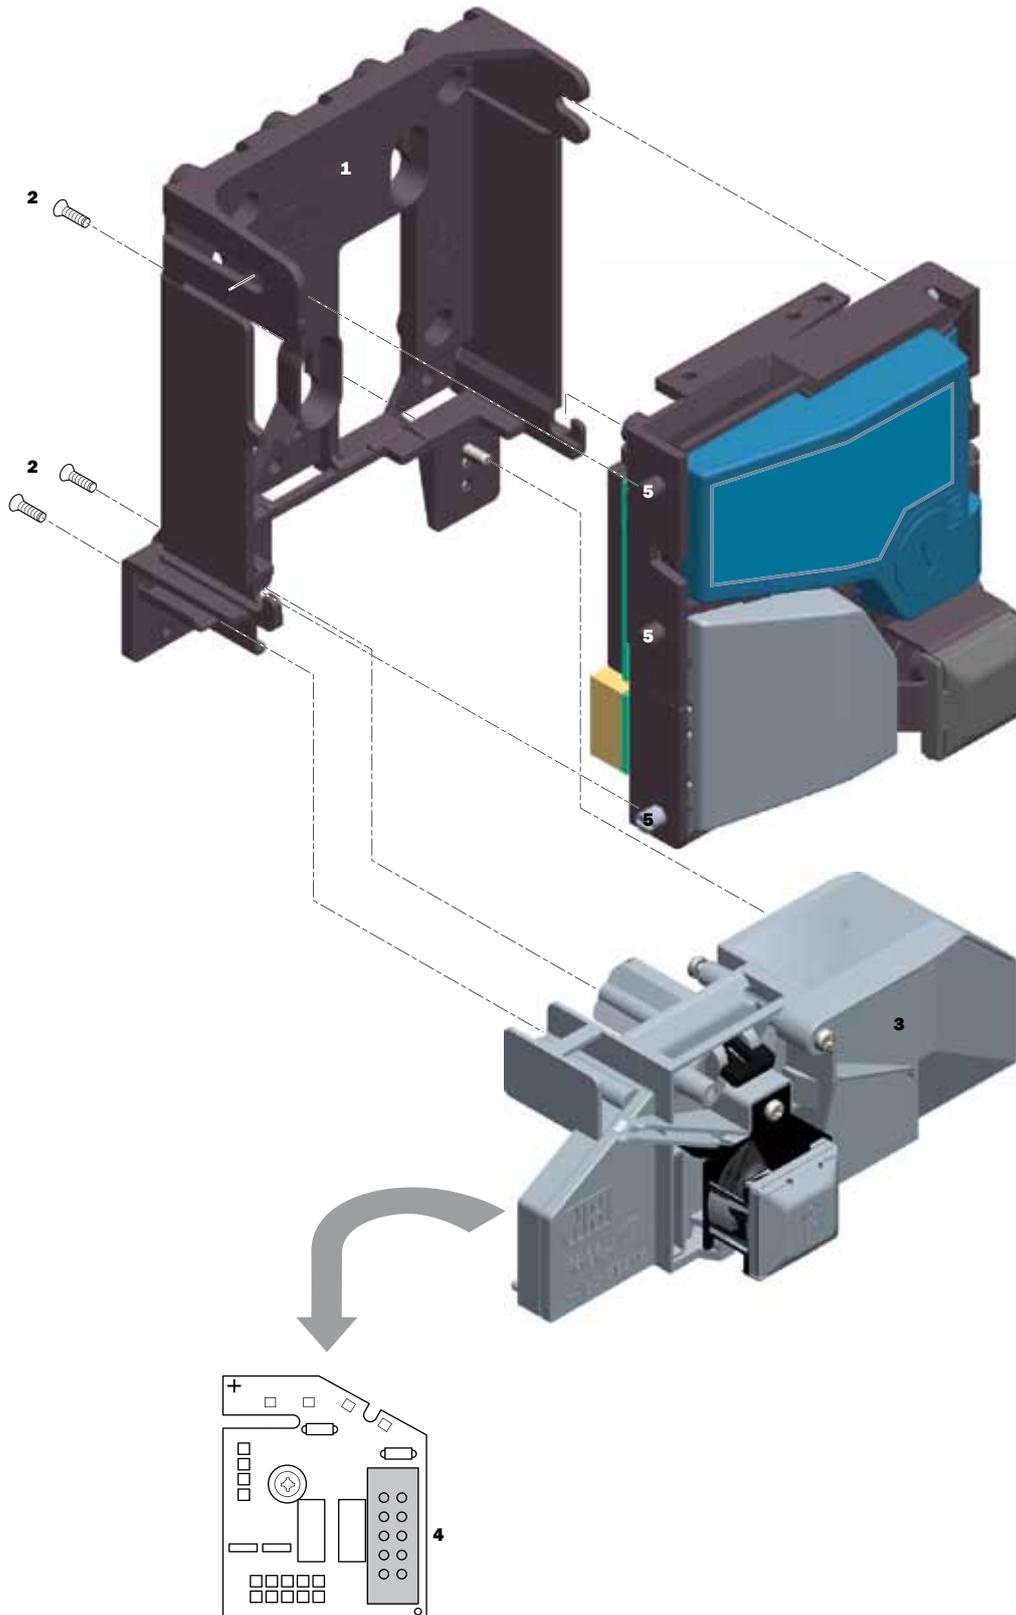

Fig. 10: Connecting the top entry version of the v2 colibri to the s2 SSD-3002 3-fold sorter
- 1** Fasten the mounting frame [Fig. 10/1] using the three screws [Fig. 10/2] on the back of the sorter [Fig. 10/3].
- 2** Connect the sorter [Fig. 10/3] to the coin validator by means of the 10-pin sorting connector [Fig. 10/4] on the back of the sorter and of the coin validator with the help of the associated sorting cable.
- 3** Suspend the coin validator on its mounting studs [Fig. 10/5] in the mounting frame [Fig. 10/1]: insert it first at the bottom then press it in at the top until it snaps in.